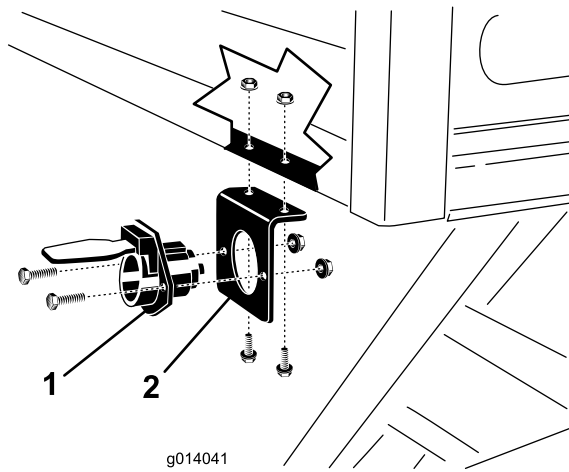

Figure 4
26. Mount the socket bracket to the bottom left edge of the front panel with two 1/4 x 3/4 inch screws and nuts (Figure 4).
28. Bolt the socket to the front of the socket bracket with two 5/16 x 1 inch screws and nuts (Figure 4).